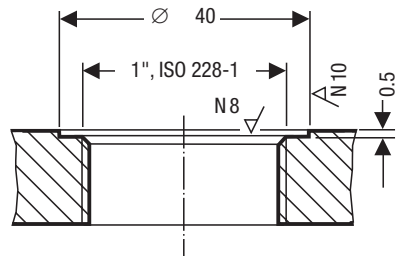

Fig. 4
5. Check seating surfaces of threads or flange provided on vessel or boiler standpipe. **Fig. 4**
6. Place joint ring **C** onto seating surface of the threaded standpipe or flange. **Fig. 4**
- The seating surfaces of the standpipe or the flange provided on the vessel must be accurately machined, see **Fig. 4**